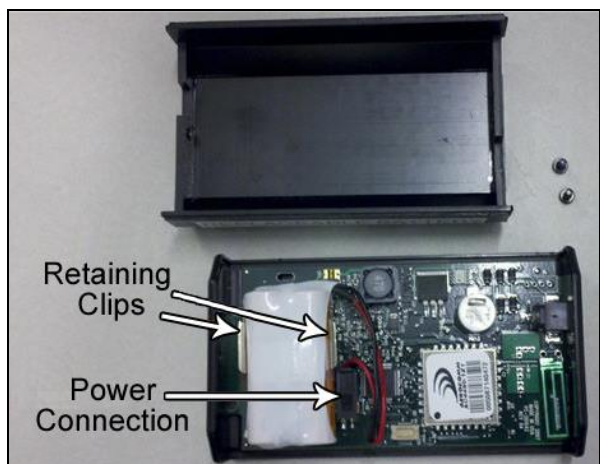

Figure 29: Handheld Unit, Cover Removed
3. Disconnect the 2-pin battery power cable from the main circuit board, and remove the battery from the retaining clips (**Figure 29**).